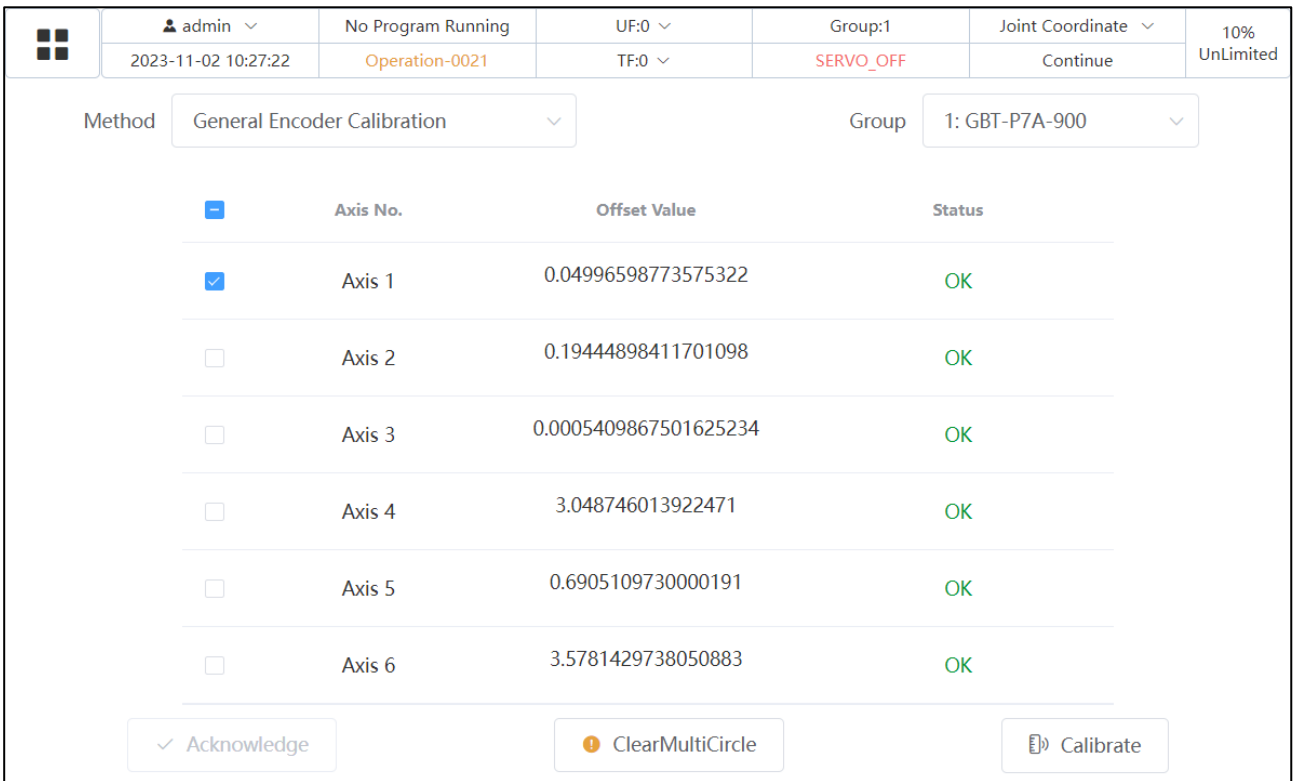

Fig. 7.5 Selection of one single axis
4. Click the box on the left of each axis number to select all axes to be calibrated as shown in 7.4; you could also select one single axis to be calibrated as shown in Fig. 7.5.